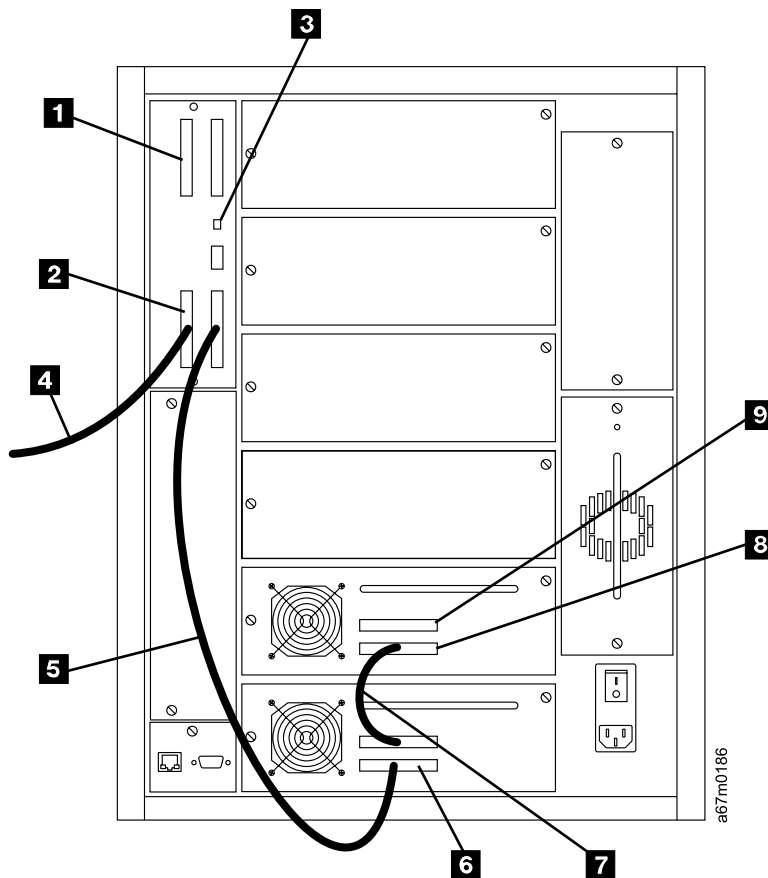

Figure 38. Making the host-to-drive connections without the SCSI Multi-Path feature
1. Refer to SCSI host interface board (see Figure 38) and determine whether you intend to attach to the HVD connector **1** or the LVD connector **2**. You can attach to and use only one of the SCSI types on the host interface board. All devices on the bus with the SCSI host interface board must be the same SCSI type (HVD and LVD cannot be mixed on the same bus).